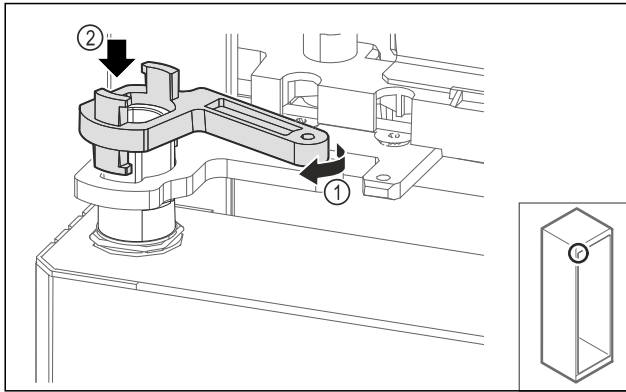

Fig. 70
- ▶ Turn the swap bearing block lock slightly and Fig. 70 (1) place it on the sleeve Fig. 70 (2).